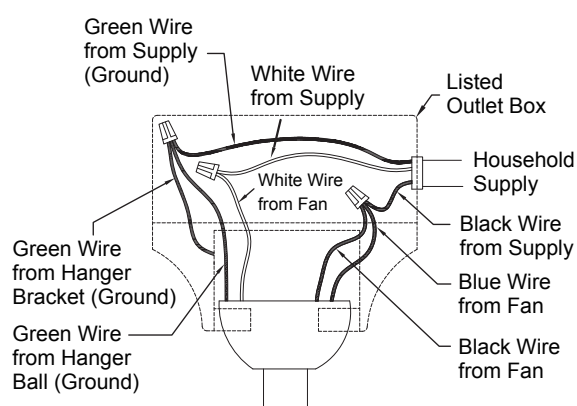

Figure 3A
2. After connections have been made, taking care not to pinch the wires and put the white and green leads to one side and the black leads towards the other side, the connection should be turned upward and carefully push leads into the outlet box. The wires should be spread apart with the grounded conductor and the equipment-grounding conductor on one side of the outlet box and the ungrounded conductor on the other side. (Figure 3A)